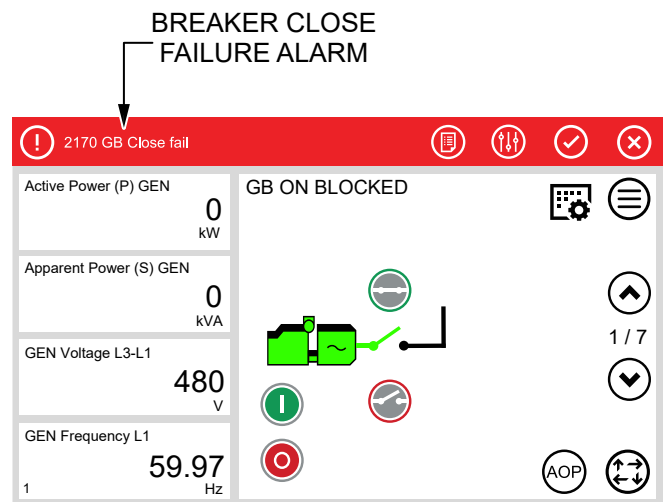

Figure 24. Breaker Close Failure Alarm
5. If the undervoltage release is installed correctly, the **Breaker Close Failure alarm** (Figure 24) will appear on the controller screen when the Main Circuit Breaker ON button is pressed: